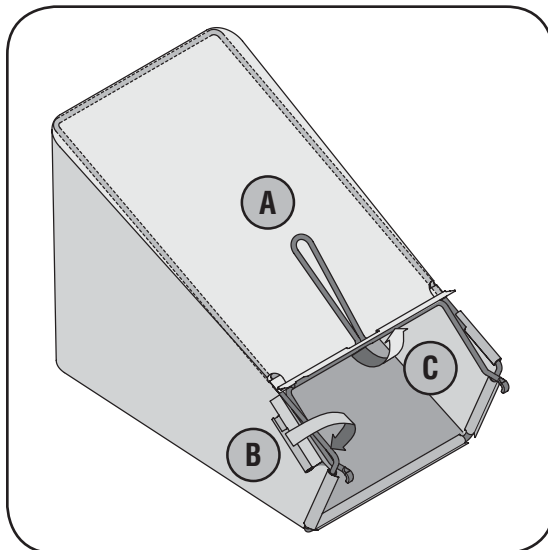

Figure 4-3
- a. Place bag over frame (black plastic side is the bottom of bag.) Insert the hooks on the frame through the holes in the side plastic channels of the bag. See Figure 4-3.
- b. Secure bag to frame by working the plastic channels on bag over frame as shown in Figure 4-3.